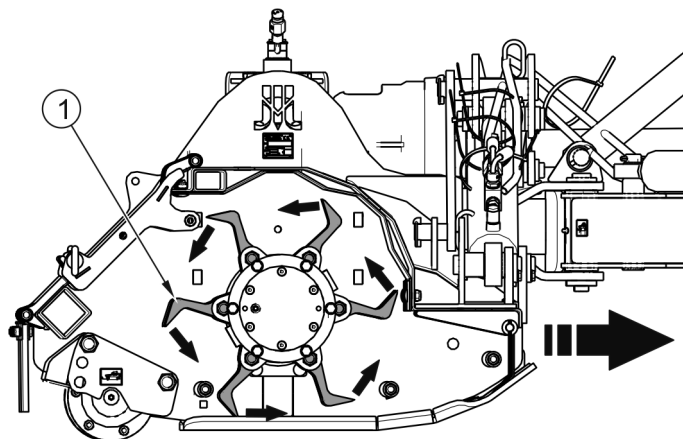

FIGURE 4.1 Rotation of cutting unit synchronised with direction of tractor travel.
- synchronised rotation of cutting unit (FIGURE 4.1).